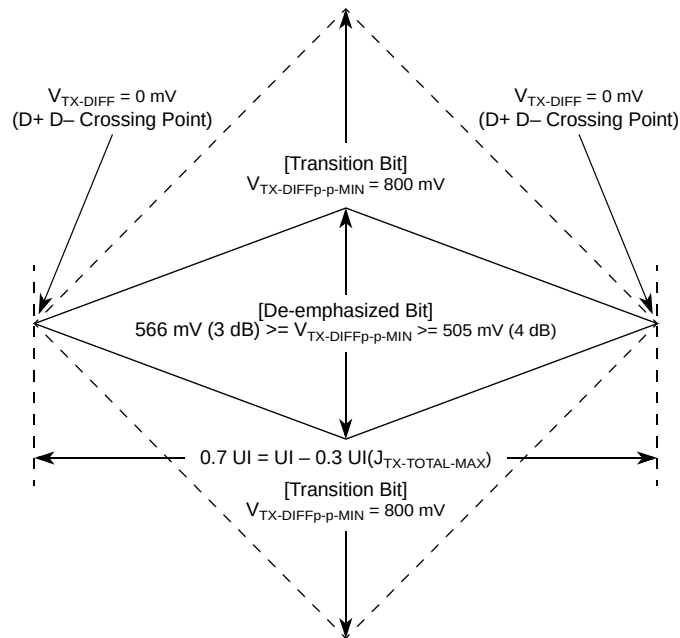
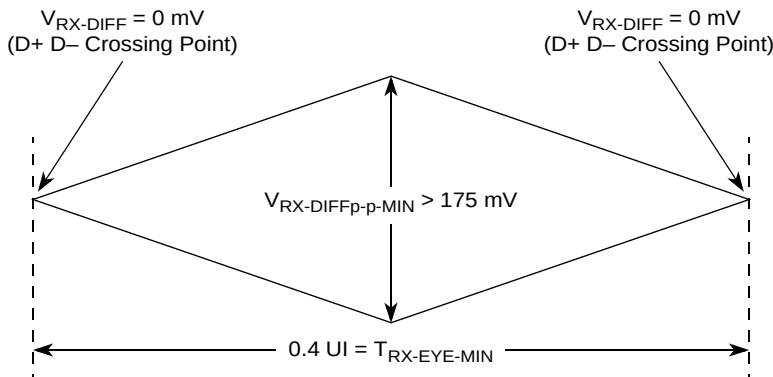
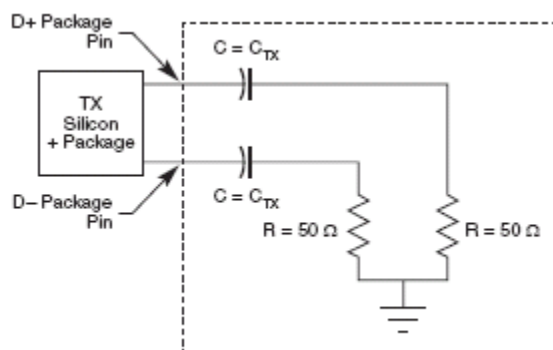

Figure 27. Minimum Transmitter Timing and Voltage Output Compliance Specifications
Figure 28. Minimum Receiver Eye Timing and Voltage Compliance Specification
Figure 29. Compliance Test/Measurement Load
2. Specified at the measurement point into a timing and voltage compliance test load as shown in Figure 29 and measured over any 250 consecutive TX UIs. (Also refer to the transmitter compliance eye diagram shown in Figure 27.)
4. The transmitter input impedance shall result in a differential return loss greater than or equal to 12 dB and a common mode return loss greater than or equal to 6 dB over a frequency range of 50 MHz to 1.25 GHz. This input impedance requirement applies to all valid input levels. The reference impedance for return loss measurements is 50  $\Omega$  to ground for both the D+ and D– line (that is, as measured by a vector network analyzer with 50- $\Omega$  probes, see Figure 29). Note that the series capacitors,  $C_{TX}$ , is optional for the return loss measurement.
5. Measured between 20%–80% at transmitter package pins into a test load as shown in Figure 29 for both  $V_{TX-D+}$  and  $V_{TX-D-}$ .
The TX eye diagram in Figure 27 is specified using the passive compliance/test measurement load (Figure 29) in place of any real PCI Express interconnect + RX component. There are two eye diagrams that must be met for the transmitter. Both diagrams must be aligned in time using the jitter median to locate the center of the eye diagram. The different eye diagrams differ in voltage depending on whether it is a transition bit or a de-emphasized bit. The exact reduced voltage level of the de-emphasized bit is always relative to the transition bit.
2. Specified at the measurement point and measured over any 250 consecutive UIs. The test load in Figure 29 should be used as the RX device when taking measurements (also refer to the receiver compliance eye diagram shown in Figure 28). If the clocks to the RX and TX are not derived from the same reference clock, the TX UI recovered from 3500 consecutive UI must be used as a reference for the eye diagram.
4. The receiver input impedance shall result in a differential return loss greater than or equal to 15 dB with the D+ line biased to 300 mV and the D– line biased to –300 mV and a common mode return loss greater than or equal to 6 dB (no bias required) over a frequency range of 50 MHz to 1.25 GHz. This input impedance requirement applies to all valid input levels. The reference impedance for return loss measurements for is 50  $\Omega$  to ground for both the D+ and D– line (that is, as measured by a vector network analyzer with 50- $\Omega$  probes, see Figure 29). Note that the series capacitors,  $C_{TX}$ , is optional for the return loss measurement.
The RX eye diagram in Figure 28 is specified using the passive compliance/test measurement load (Figure 29) in place of any real PCI Express RX component. In general, the minimum receiver eye diagram measured with the compliance/test measurement load (Figure 29) is larger than the minimum receiver eye diagram measured over a range of systems at the input receiver of any real PCI Express component. The degraded eye diagram at the input Receiver is due to traces internal to the package as well as silicon parasitic characteristics which cause the real PCI Express component to vary in impedance from the compliance/test measurement load. The input receiver eye diagram is implementation specific and is not specified. RX component designer should provide additional margin to adequately compensate for the degraded minimum Receiver eye diagram (shown in Figure 28) expected at the input receiver based on an adequate combination of system simulations and the return loss measured looking into the RX package and silicon. The RX eye diagram must be aligned in time using the jitter median to locate the center of the eye diagram.
The reference impedance for return loss measurements is  $50\ \Omega$  to ground for both the D+ and D- line (that is, as measured by a Vector Network Analyzer with  $50\ \Omega$  probes—see Figure 29). Note that the series capacitors,  $C_{PEACCTX}$ , are optional for the return loss measurement.
The AC timing and voltage parameters must be verified at the measurement point, as specified within 0.2 inches of the package pins, into a test/measurement load shown in Figure 29.